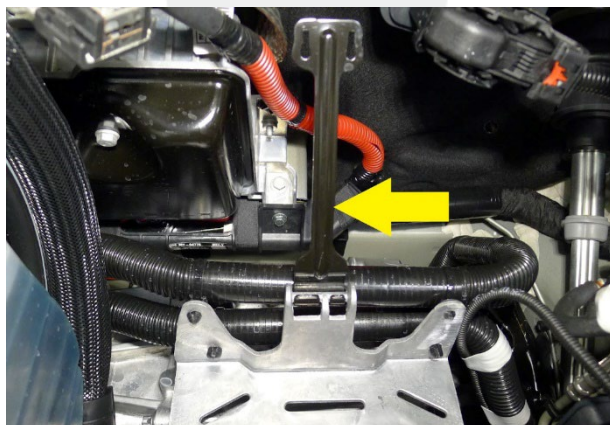

Figure 2
4. Rotate the rear battery tie down strap forward to release, and then remove the strap from the vehicle (Figure 2).